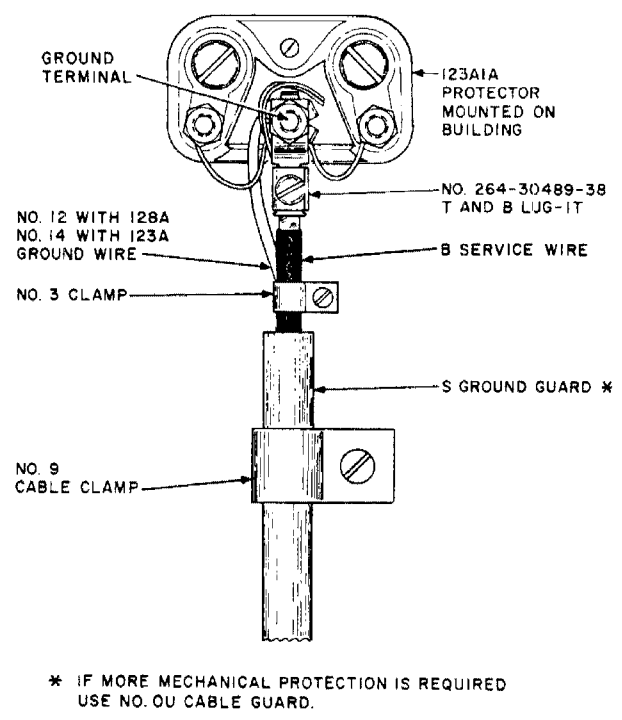

Fig. 18—Service Wire on Protector
6.06 Fig. 18 illustrates the Lug-It installed on a 123A1A Protector.